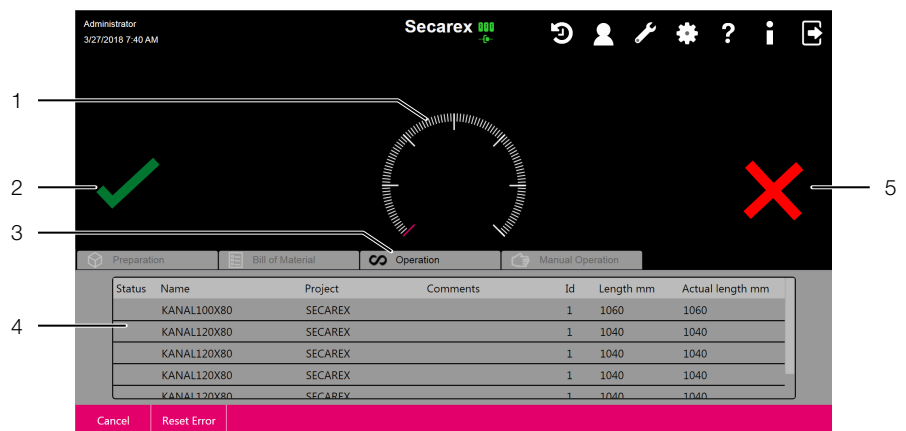

Fig. 12: "Operation" tab
Select the "Operation" tab (fig. 12, item 3) to start the actual machining. The operating steps to be performed by the operating personnel are displayed on the screen.
- Press the "Workpiece defect" button on the screen (fig. 12, item 5).